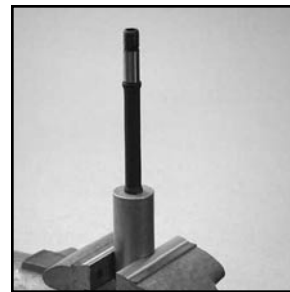

Fig. 6G
1. Clamp the long bearing press into the bench vise. Push the axle, long end first, through the hole in the press. The short, 33mm end of the axle should be on top (Fig. 6G).